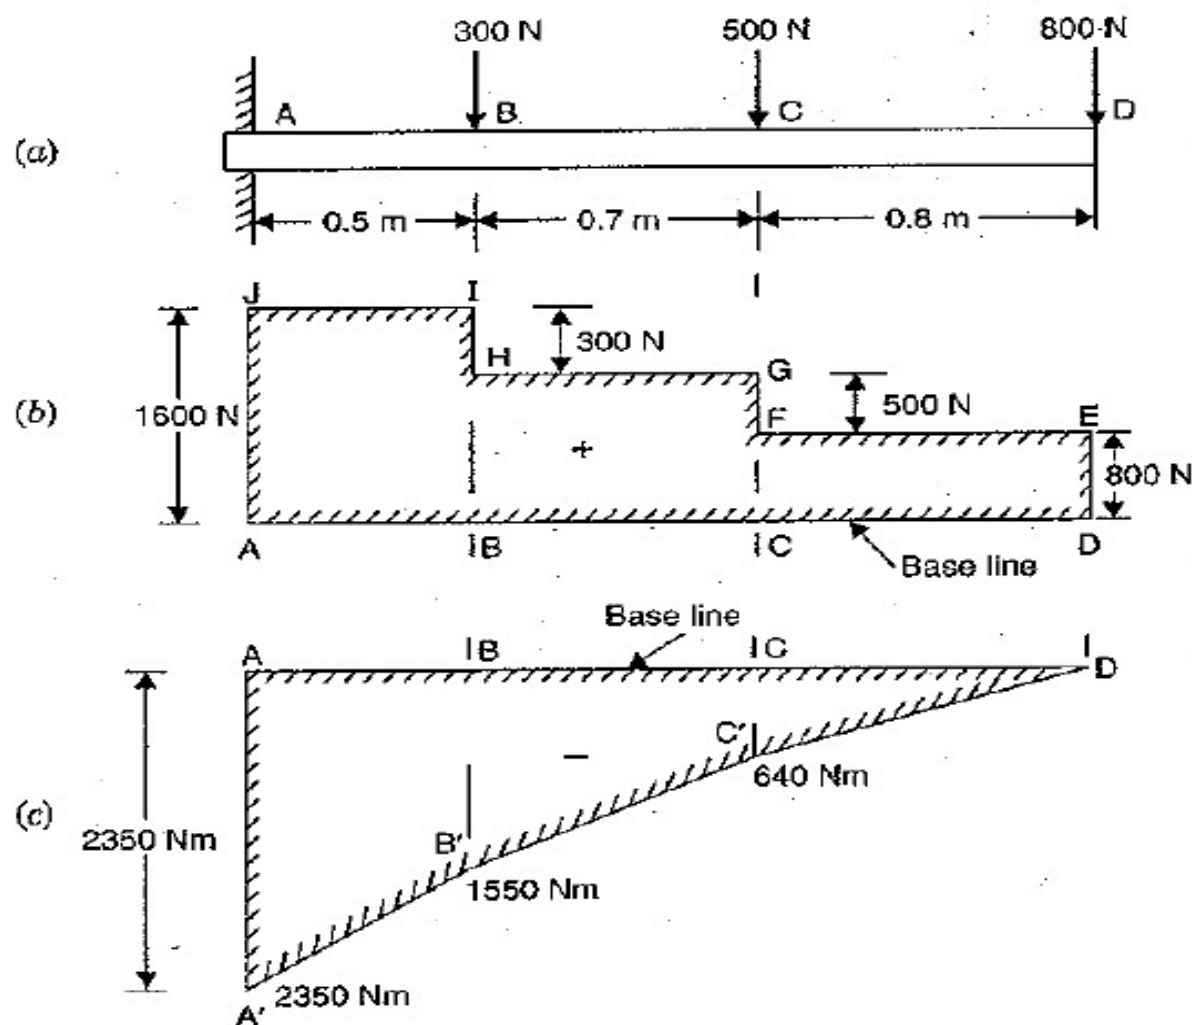

Fig. 6.15
**Problem 6.1.** A cantilever beam of length 2 m carries the point loads as shown in Fig. 6.15. Draw the shear force and B.M. diagrams for the cantilever beam.
Refer to Fig. 6.15.
The shear force, diagram is shown in Fig. 6.15 (b) which is drawn as :
The bending moment diagram is shown in Fig. 6.15 (c) which is drawn as.